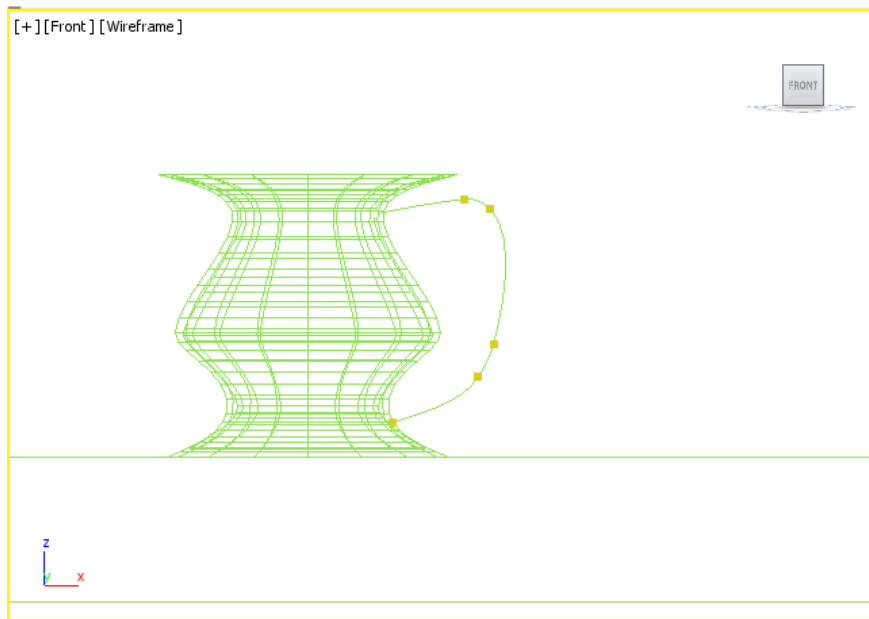

Figure 5-18 The Handle modified by moving the bezier handles of the vertices
7. Invoke the **Select and Move** tool from the **Main Toolbar** and right-click on the second vertex. Choose **Bezier** from the quad menu and then move the *Handle* to get the desired curve. Similarly, modify the rest of the vertices of the *Handle* as needed to form a curved shape, as shown in Figure 5-18.